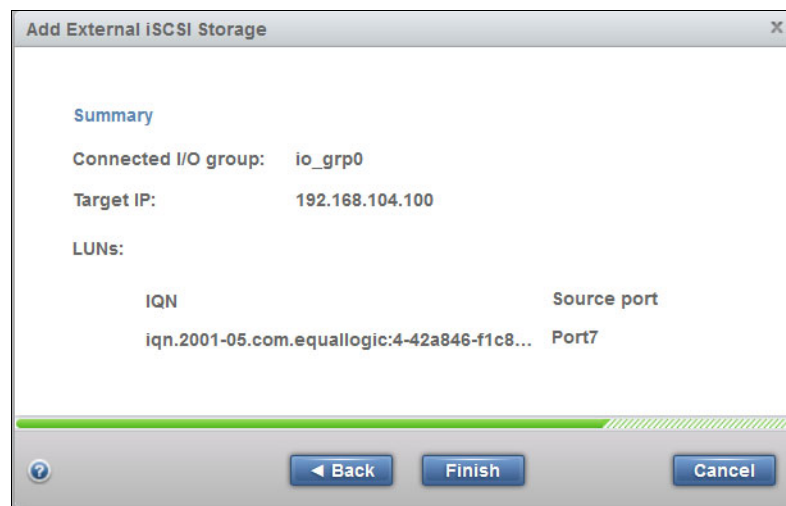

Figure 14-32 Summary for back-end connection establishment
10. The summary of the included LUN is displayed in the summary window for validation, as shown in Figure 14-32. Click **Finish** after you review the summary. This action creates sessions to the specified LUNs of Dell controller.